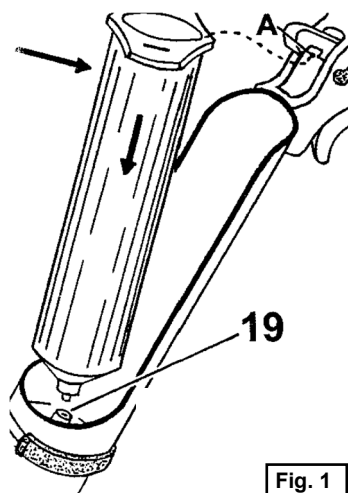

Fig. 1
1. Remove the closure cap (10) by rotating a half turn to the left.
2. Insert here one of the cannulas supplied (21/22). The metal cannula (21) has an inside diameter of 1.2 mm. The plastic cannula (22) must always be used where contact with live parts is possible (switch or similar).
4. Push the gun trigger (13) forward and switch the red selector (14) to "OFF". Insert the cartridge as flat as possible with the tip forward into the holder. Attention: the cartridge outlet must be inserted exactly into the nozzle (19) of the valve holder (see Fig.1). Press the cartridge forward and slightly downward at the same time until its posterior margin locks at hook A (Fig. 1).